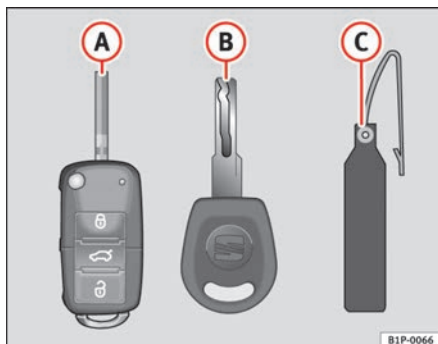

Fig. 62 Set of keys
- one remote control key ⇒ fig. 62 **A** with folding key bit,
Duplicate keys are only issued with the key number on the key tab ⇒ fig. 62